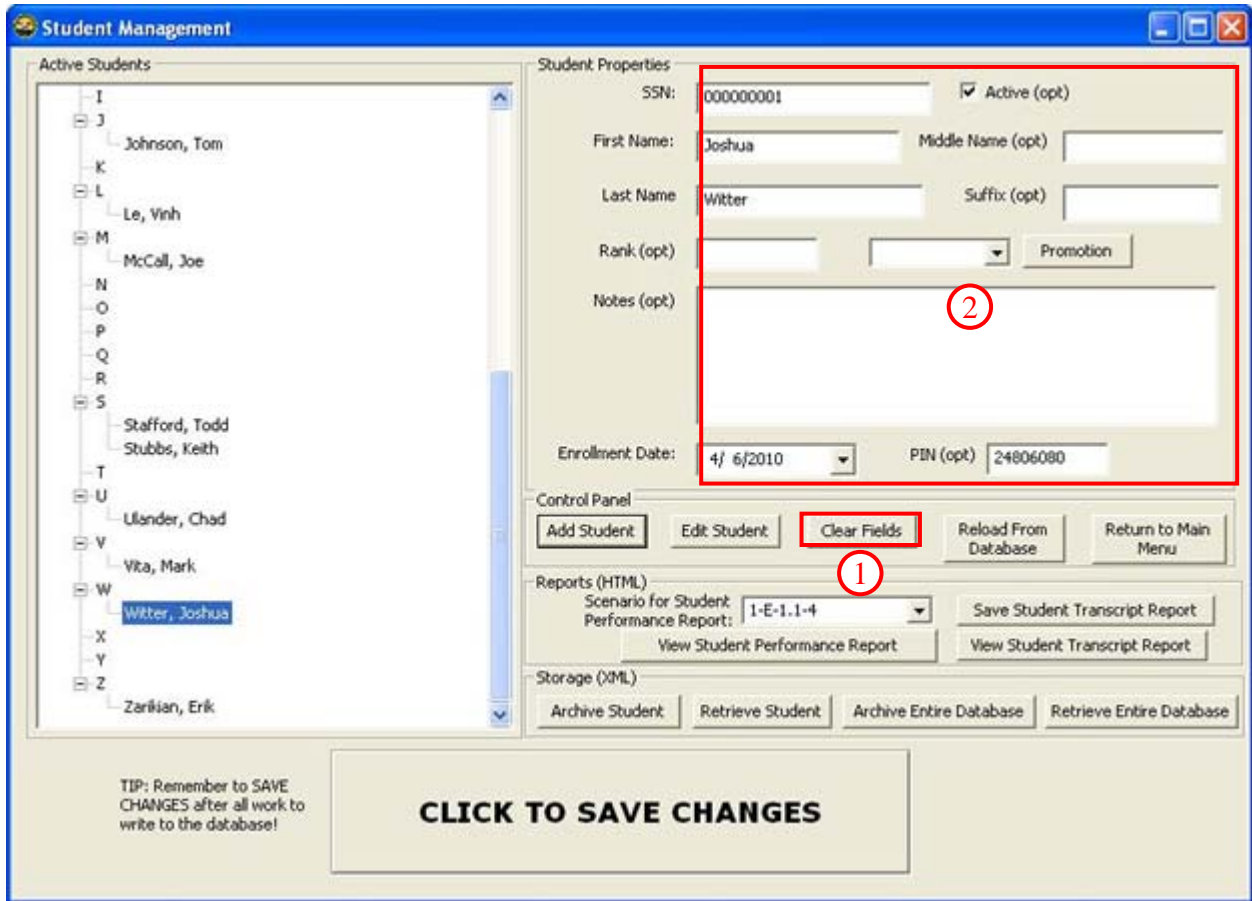

Figure 68. Student Management - Clear Menu
1. Click the [CLEAR FIELDS] button (Figure 68).